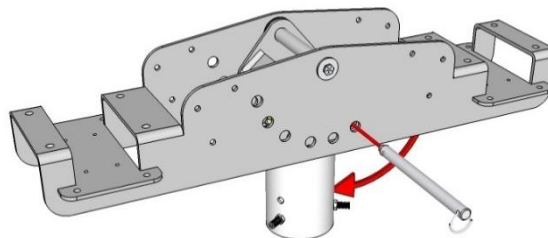

Fig. 2
- 9.1 With the Cradle Assembly resting on the ground or on a suitable work surface, remove the Angle Locking Pin from the Cradle. Rotate the Main Pivot downward so that it is arranged as shown in Fig. 2 below. Reinstall the Angle Locking Pin through the 0° hole.